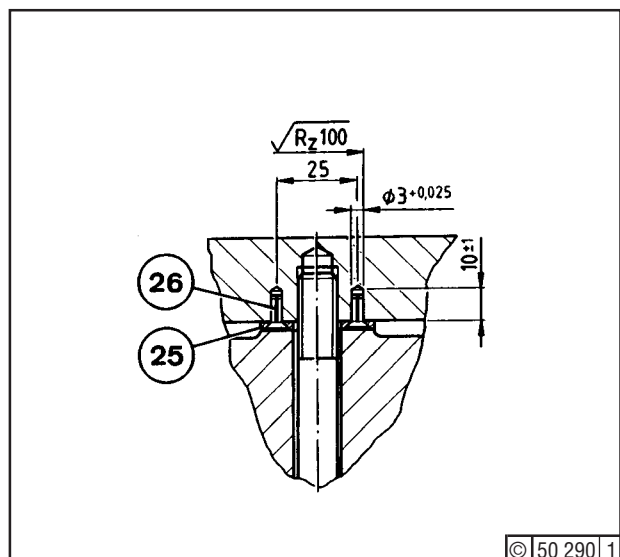

Fig. 4
We recommend to fasten glued-on spacers (25) - Fig. 4 - with countersunk nails as well. For that purpose the respective crankcase covers have to be reworked as per Fig. 4. Use countersunk nails to DIN 1477-3 x 10-ST.
- Horizontal misalignment, for instance, due to incorrect gaskets behind crankcase covers or incorrect spacers (25) - Fig. 4, improperly countersunk nails (26).